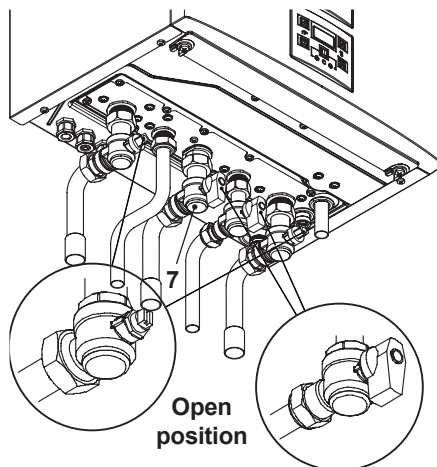

Fig. 7.1
- Open the gas cock 7 (Fig. 7.1) on the appliance and check the gas connector on the appliance for leaks.
- Open the valves located in the lower part of the boiler (Fig. 7.1).